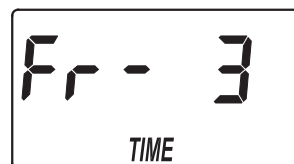

FIG. 27
2. Press the SELECT/MENU button twice, so that "Fr TIME" appears in the display (See Figure 27).